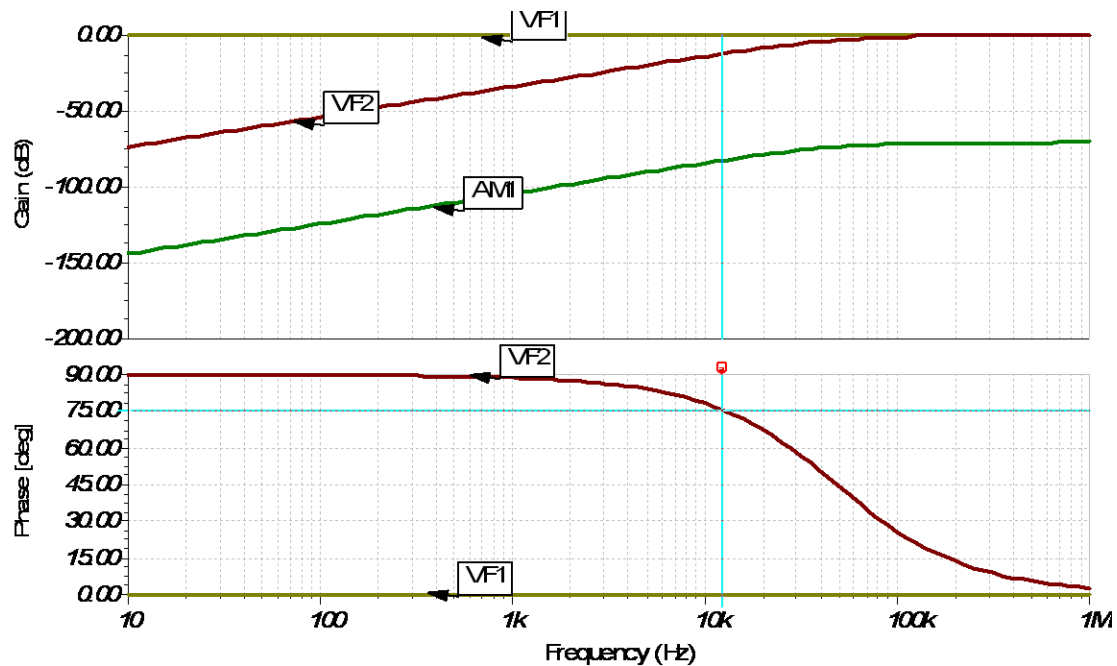

Fig. Sim1a: Bode plots of Amplitude (Gain) and Phase-Single Stage CR network
4. Click “Analysis” in the menu bar and select “AC Analysis”. Then, click on “AC Transfer Characteristic”. In the dialog box set the “start” frequency to 10 Hz and the “end” frequency to 1 MHz. Set the “Sweep type” radio button to “Logarithmic” and check the “amplitude & phase” box leaving the other boxes unchecked. Then click OK. The Bode plots of amplitude and phase at the voltage pins vs frequency will be displayed. A screen shot of the Bode plots of amplitude and phase vs. frequency for the single stage CR phase shift network is shown in Fig. Sim1a.